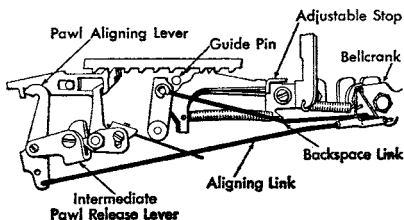

Figure 36. Aligned Link Adjustment
6. THE PAWL ALIGNING LINK is adjusted to fully align the pawls when the backspace cam is on its high point (Figure 36). Unhook the aligning link and place the backspace cam on its high point. Pull the aligning link to fully align the escapement pawls and match the pin in the clevis to the working side of the elongated hole in the backspace bellcrank. Check for full alignment at the high point of the backspace cam by checking for movement to the left by the escapement pawls when pulled or pushed with a spring hook. There should be no movement, but this may indicate over-alignment. In this case back off one-half turn on the aligning link and check the movement of the escapement pawls again to eliminate any choke-off.
b. Trip the backspace cam with the power off and rotate the power roll by hand while observing the 8 escapement pawl movement. When the 8 escapement pawl drops into the next rack tooth, the backspace pawl stop should be positioned to prevent any further movement of the backspace pawls (Figure 36).